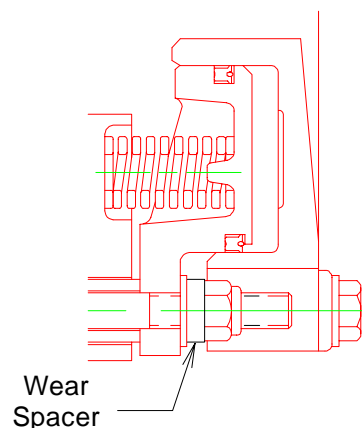

Figure 9
- 4.2.1.9 Lubricate the threads on the ends of the studs with 30 wt. oil or anti-seizing compound and install the locknuts (19), washers (18) and the wear spacers removed in 4.2.1.5. The wear spacers are "stored" under the locknuts for use after replacing friction discs. See Figure 9.